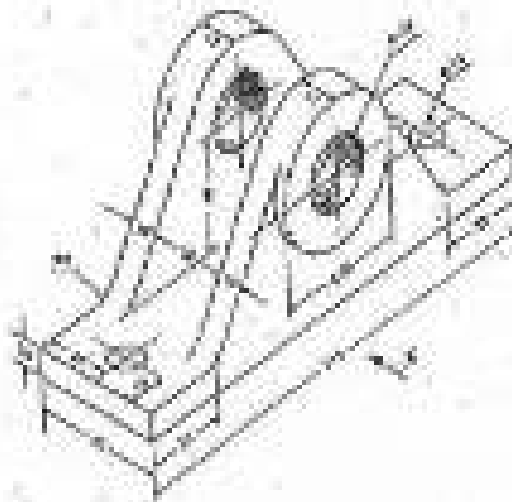

Fig. 4a
- a) Design and draw neat dimensional drawing in three views with one sectional view of a jig for drilling two holes of  $\phi 12$  through as shown in fig. 4a. Show clearly the details of clamping and location of workpiece. Assume this as a final operation. [26]